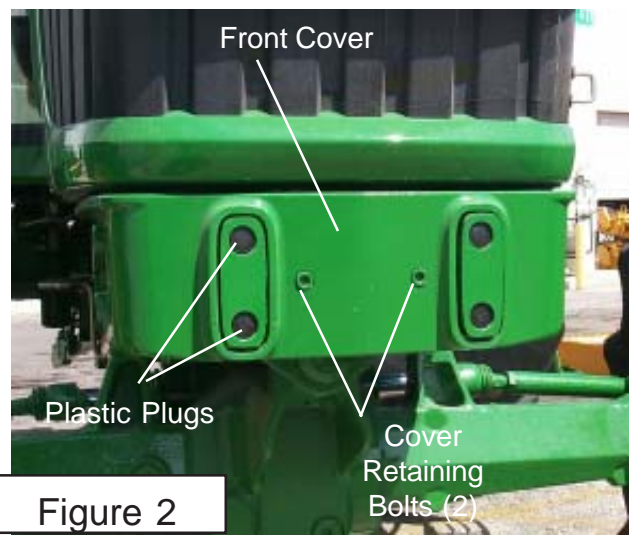
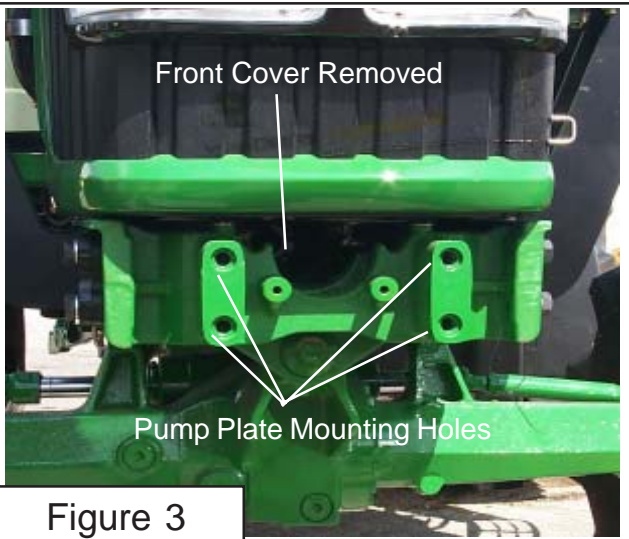
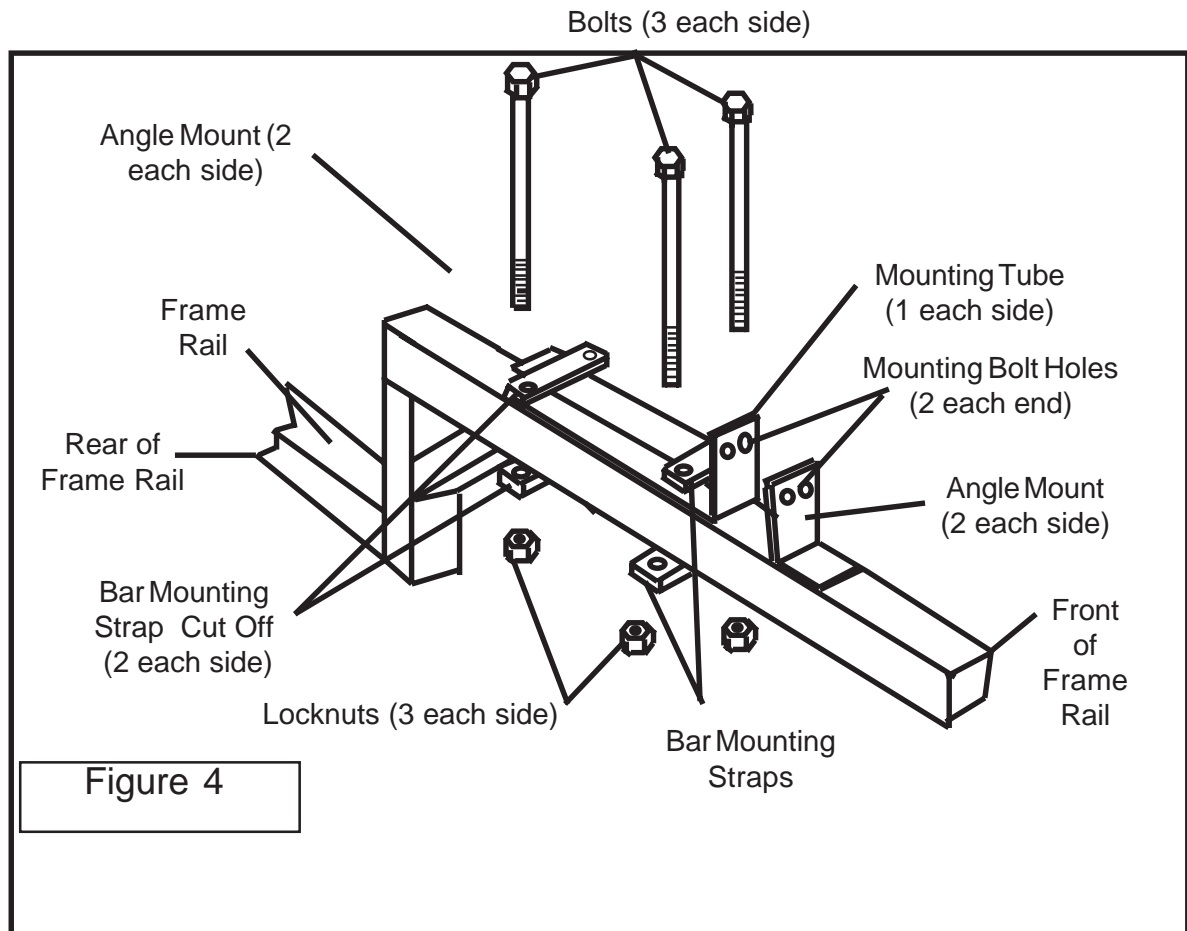

Figure 2
Figure 3
Figure 4
5. Looking at the outside make sure the three special Washers (Figure 1 Item 2) are aligned with the Slots in the Wheel Weight. Tighten the three Bolts now. You will need an assistant to hold the other Side while you are tightening the Bolts. While tightening Bolts, check to make sure the three special washers are seated correctly. If these Bolts are tightened and washer are not seated into the recess on Wheel Weight, damage will occur. (See Figure 3)
1. Remove Front Cover (See Figure 2), Remove the 4 plastic plugs shown in figure 1 and discard them, they will not be needed. Remove the 2 Allen Head Cover Retaining Bolts. After removal, this front cover will not be used. The front Casting will have a Driveline Hole in it. (See Figure 3). This will be the same on 2 WD or 4 WD.
5. Install Shaft End of Driveline / Engine end. Install the Shaft 1/2 Assembly w/ Flanged Yoke into the Engine compartment of Tractor, install it from the LH front Side down and under radiator. (**See Figure 6**). This needs to be installed this way because the Flange Yoke will not go through the Crankshaft access hole in the front of the Tractor (**See Figure 3**). Bolt the Flange Yoke to the Pulley Adapter using the four 7/16" X 1-1/4" Bolts (Part # 02976344), use the four Lock Washers (Part # 00022200), put Locktite on the threads of the Bolts and install them into Pulley Adapter. To Tighten these four Bolts, use a long extension and go through the front Crankshaft Pulley access hole in front of Tractor. Do Not use bolts longer than 1-1/4" long, longer bolts will damage Crankshaft Pulley.
High Frame Mounting Tube Components. (See Figure 3 & 4) These Components are to be laid out and will be tack welded to frame Rails and High frame during Pre-Assembly Process. Locate and ID these Parts for later installation. Remember DO NOT Weld any components until instructed to do so.
High Frame Mounting Tube Components. (See Figure 4) These Components are Sitting in approx. position of assembly to illustrate where they are to be when tack welding them. Space is left between them for illustration only, they will be closer together when assembled. Also See Figure 3 on previous Page.